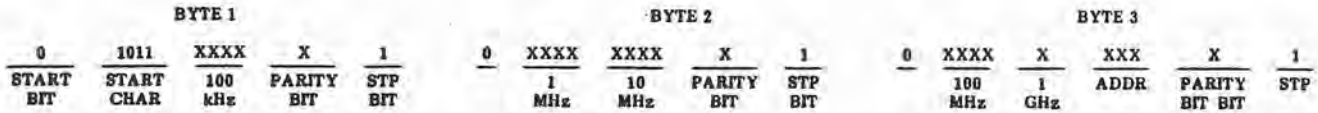

Figure 2-4. Serial Data Input Data Configuration.
2.2.1.4 SER DATA INPUT (A2J1) - The serial data input connector accepts a serial string of data to control the tuning of the preselector. In the standard configuration, BNC connector J1 accepts the serial data from a coaxial control line. When preselector is equipped with the optional Fiber Optic Interface, the serial data is accepted via fiber optic receiver U2. Tuning data provided to the unit is configured in three bytes, as illustrated in **Figure 2-4**. Each byte consists of a start bit, eight data bits, one parity bit (odd), and a stop bit. Byte one is comprised of a start character (Hexidecimal D) and the BCD value of the 100 kHz digit of the tuned frequency. The second byte contains the 1 MHz and 10 MHz frequency digits. The third byte the 100 MHz tuning digit and a 1 GHz frequency bit followed by three bit locations for address data. In its present configuration, the three bit address is not set and is ignored by the control section.